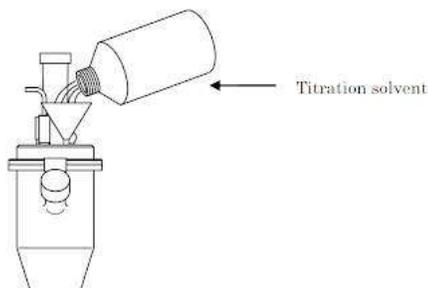
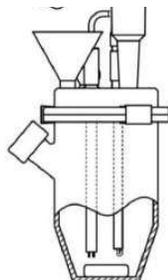

Fig.3.1 Preparation of the reagents
Fig.3.3 Introduction of sample with powder funnel
(1) Fill 50 mL of titration solvent into the titration cell as shown in Fig.3.1.
(2) Start blanking to attain stable background.
(3) Start titration. Measurement parameter is shown in Table 4.2.
(3) Put a sample container, powder funnel and spoon on the balance. Record its read (Size 1 [g]).
(4) Open the glass stopper of titration cell lid to introduce the sample with powder funnel as shown in Fig.3.3.
(5) Start titration. First, 10 mL of KF titrant is dispensed into the cell and then titrated with water-in-methanol solution. Measurement parameter is shown in Table 4.3. Set the factors measured in section 3.1 and 3.2 for the KF reagent and the water-in-methanol solution.
- (1) Fill 50 mL of titration solvent into the titration cell as shown in Fig.3.1.
- (2) Start blanking to attain stable background.
- (3) Open the glass stopper of titration cell lid and introduce the funnel. Without adding the sample, leave to stand for the same amount of time as it takes to add the sample in section 3.3, then attach the stopper.
- (4) Start titration. Blank test is performed with forward-titration. Measurement parameter is shown in Table 4.4.
- (5) Set the result of titrant volume obtained in the blank test as the blank value for the measurement conditions of the sample.